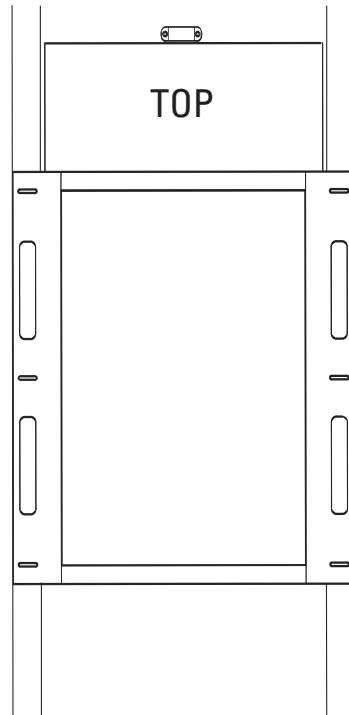

Figure 4: Place the Back Box Between Wall Studs
2. Position the back box between two wall studs and into the wall cavity, as shown in Figure 4. The back box must be placed between standard 16-inch on-center stud spacing. If desired, the back box can be mounted upside down (large flange toward the floor) if you will be mounting the speaker close to the ceiling.